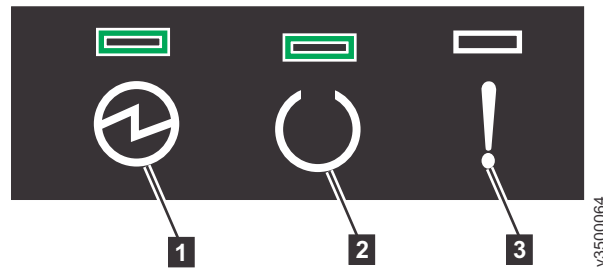

Figure 123. Node canister LEDs
5. From the rear of the control enclosure, check the LEDs on each node canister (see Figure 123).